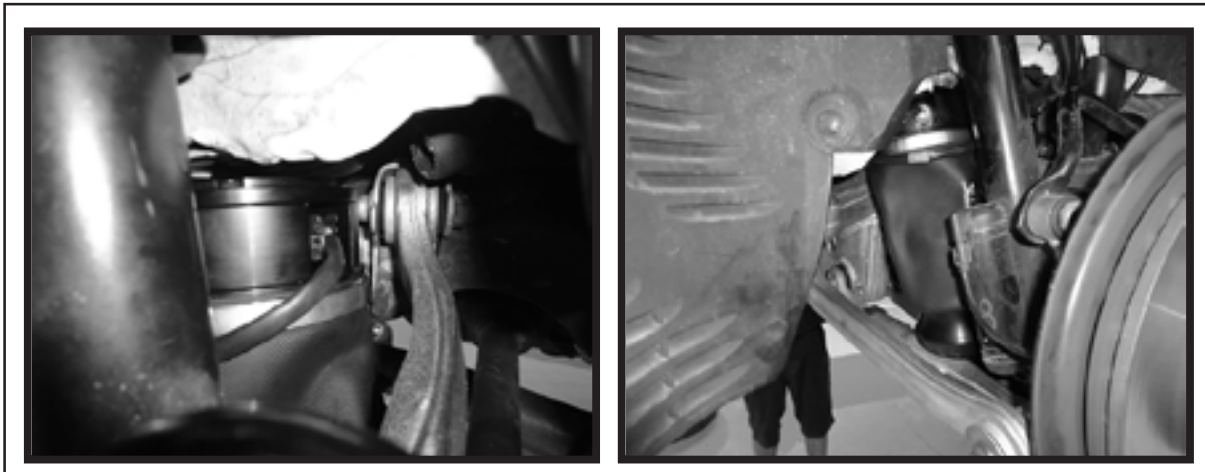

FIGURE 10-39
23.0 CONNECT AIR SPRING VALVE WIRING. (FIGURE 10-39)